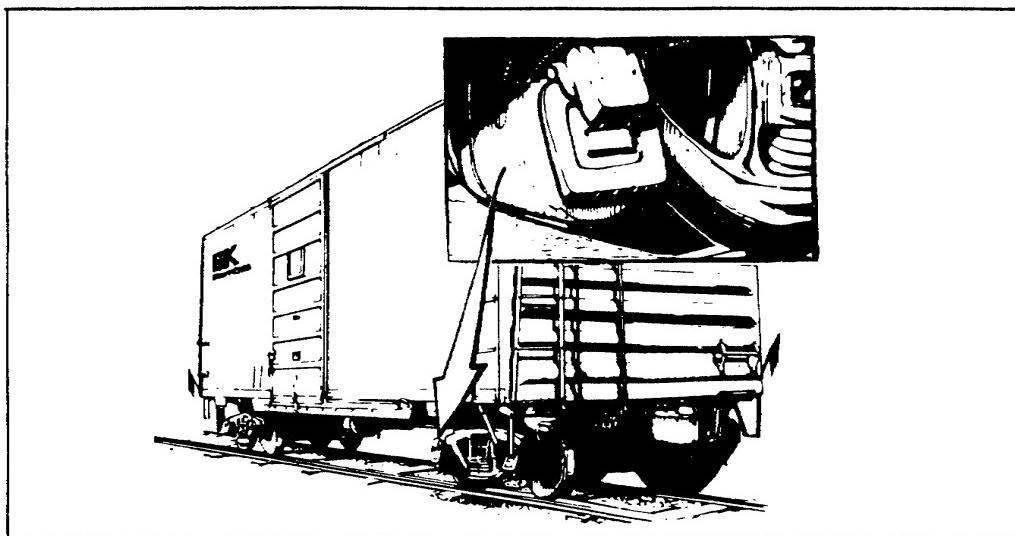

Figure 1-5. Location of Journal Box.
*Item 8.* Even though the carrier representative certified, by signing the first part of the car certificate, that the journal box covers were properly packed, oiled, and covered, inspect them again (figure 1-5). Make sure that they are closed tightly. If the springs do not hold the cover closed, record it under UNSAT on the inspection report.